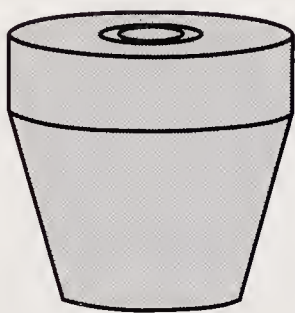

Figure 17-37. A self-aligning reamer guide like this one can be easily made on a metal cutting lathe. (Briggs & Stratton Corp.)
- Use modified reamer guide to align 7mm tap. See **Figure 17-37**. Measure shank of 7mm tap and drill reamer guide to assure tap will be square to the bushing to be pulled.